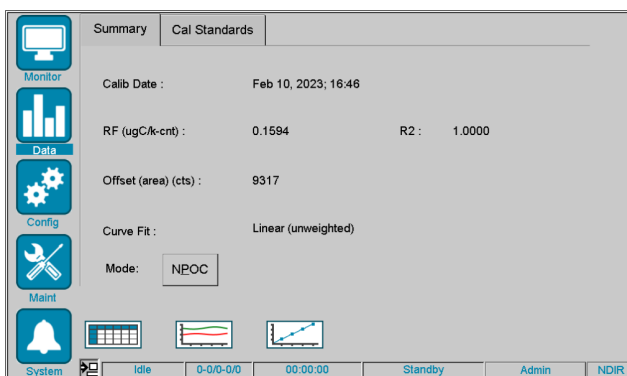

Figure 4.13 Data Screen - Calibration - Summary
The calibration curve data values consist of the response factor (RF) or slope, the Y-intercept (Offset), and the correlation coefficient (R^2). The curve fit defaults to Linear (unweighted). The date of the most recent update to the calibration is also shown (Figure 4.13).